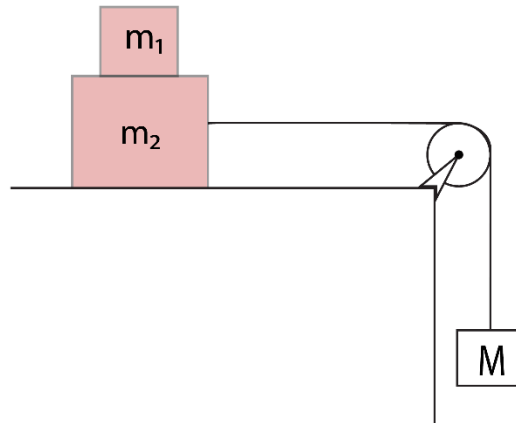

Fig. 1
1. Block 1 of mass $m_1 = 2 \text{ kg}$ is placed on block 2 of mass $m_2 = 3 \text{ kg}$ which is then placed on a table. A string connecting block 2 to a hanging mass M passes over a pulley attached to one end of the table, as shown in Fig. 1. The mass and friction of the pulley are negligible. The coefficients of friction between block 1 and block 2 are $\mu_{1s} = 0.2$, $\mu_{1k} = 0.1$ and between block 2 and the tabletop are $\mu_{2s} = 0.3$, $\mu_{2k} = 0.15$.